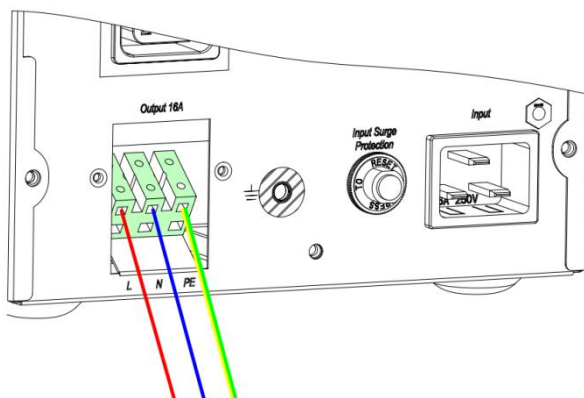

Fig.3 Output terminal of 3KVA
- 2). Use AWG14 wires for terminal wiring configuration as fig.3.